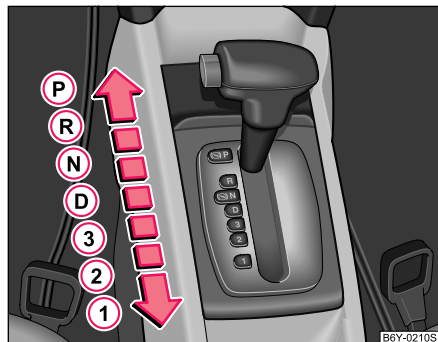

Fig. 87 Selector lever
- Press the Shiftlock button (button in handle of the selector lever), move the selector lever into the desired position, e.g. **D** ⇒ page 104, fig. 87, and then release the Shiftlock button.